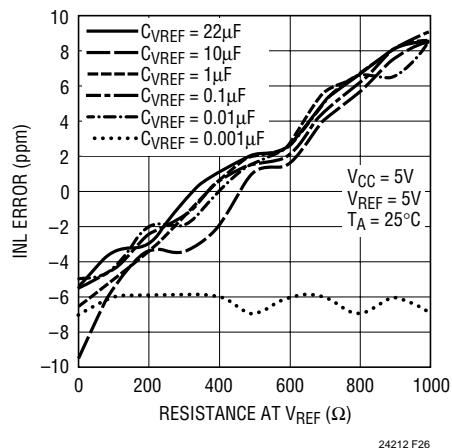

Figure 26. INL Error vs  $R_{VREF}$  (Large C)
0.015ppm/Ω independent of capacitance at  $V_{REF}$ , see Figure 26.